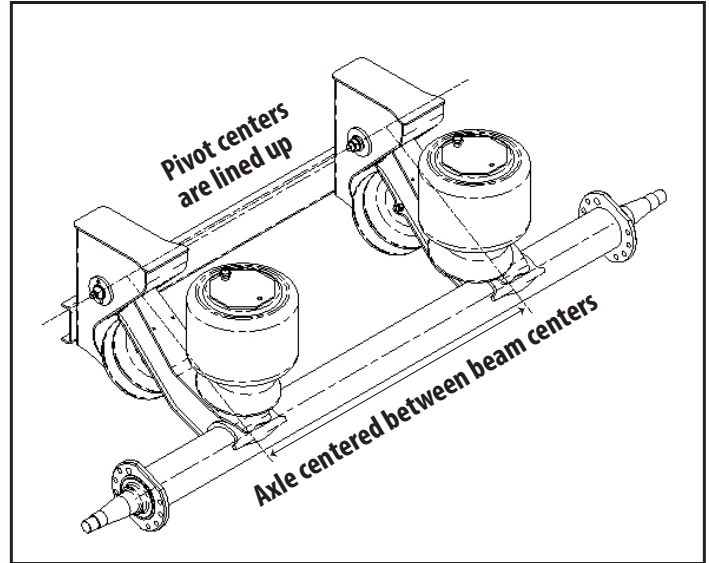

Figure 4. Axle should be centered between the beams with beams and axle perpendicular to each other. Refer to the engineering drawing for measurements.
1. Center the axle assembly on the beam centers (Figure 4).